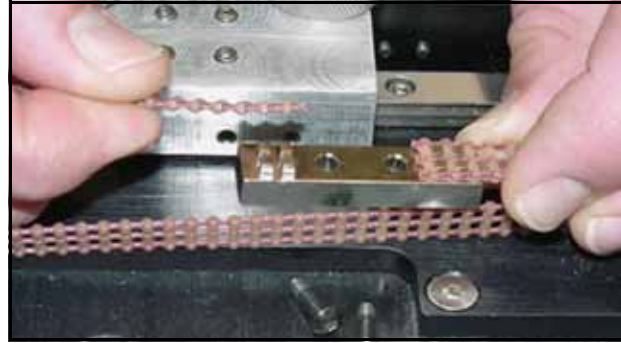

Figure 4-36: Clamping the belt to the shuttle.
- 6c. Connect the belt ends to the shuttle clamp as shown in Figure 4-36. Ensure that the teeth on the shuttle clamp are engaged with the holes on the belt. If the belt is too long, cut off excess length. Re-attach the shuttle clamp to the shuttle.